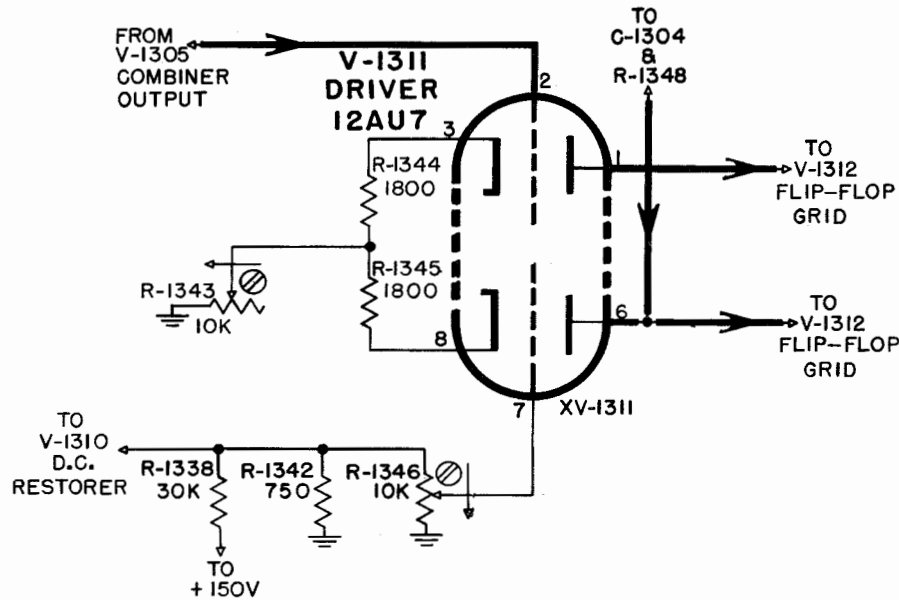

Figure 2-51. Drivers V-1311, V-1319, Simplified Schematic Diagram
(13) DRIVERS, V-1311 AND V-1319 (CM-32/FRR-24). (See Figure 2-51).—A separate driver is provided for each channel. Each driver operates in the same manner thus the following description and features of driver V-1311 is also applicable to the other driver V-1319.